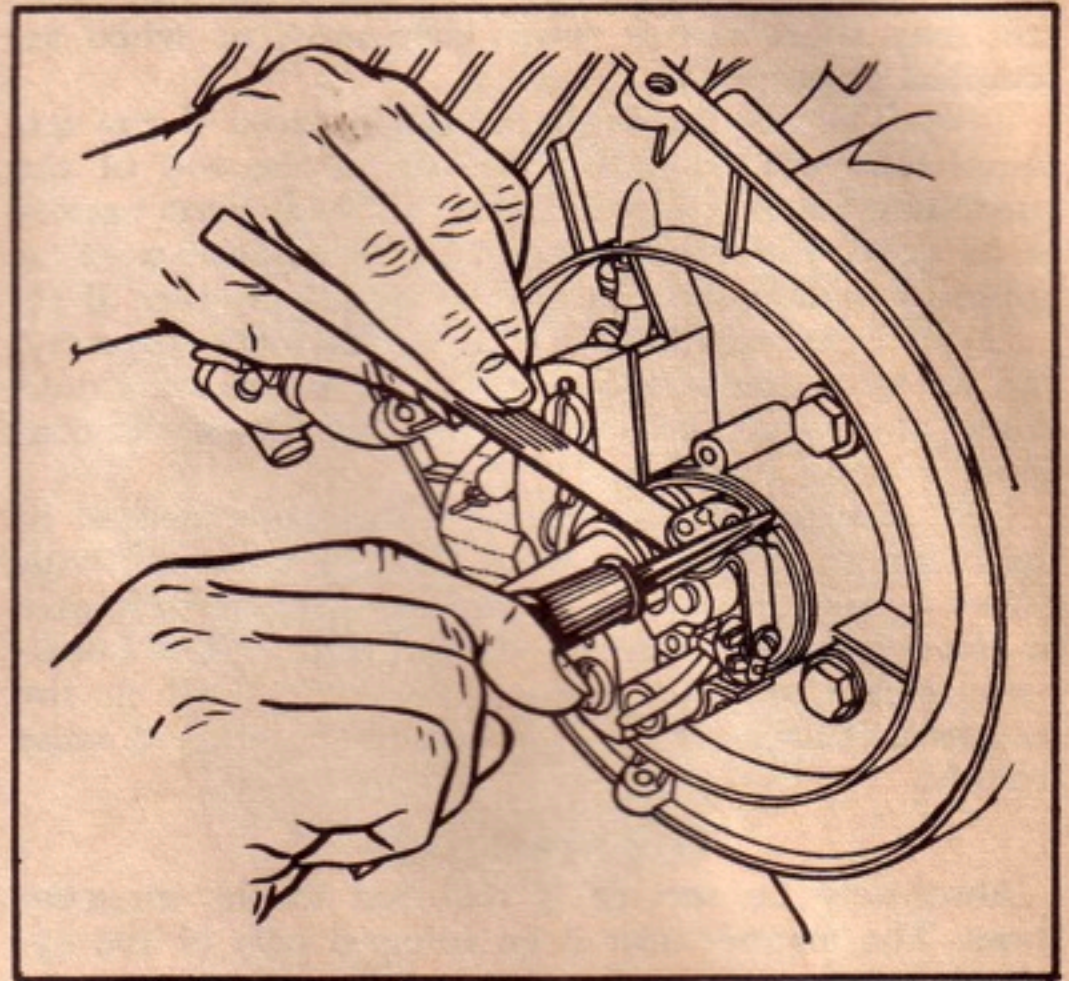

Figure B-13. Adjusting Breaker Points on Phelon Magneto
(18) Adjust breaker points of Phelon magnetos to .018 inch by shifting the breaker bracket in accordance with figure B-13. In either case, loosen the contact retaining screw just enough to allow the breaker bracket to shift. Tighten the contact retaining screw after the correct measurement is obtained. A new measurement should then be taken, as tightening the screw will sometimes change the gap several thousandths of an inch. As a precaution against the points closing under vibration, it is advisable to use a No. 8 shakeproof washer—part No. 5481—under the hold down screw (if a washer is not already in use).
(19) Breaker point terminal screw should make a clean, tight connection with terminal lug of condenser and coil lead. Be careful not to allow the screw to tighten on insulation of leads. The tension spring has